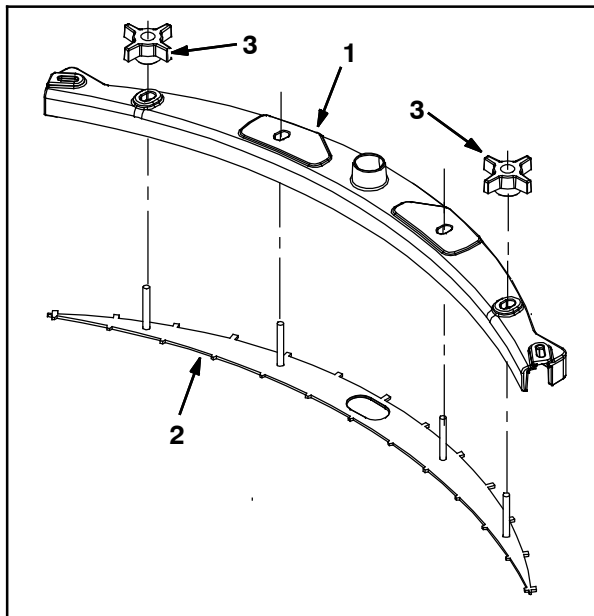

FIG. 3
5. Use the two provided star knobs (3) to install the new squeegee retainer plate (2) onto the squeegee frame (1). Do not tighten star knobs. Refer to Fig. 3.
7. Slightly tighten the two star knobs (3). Refer to Fig. 3.